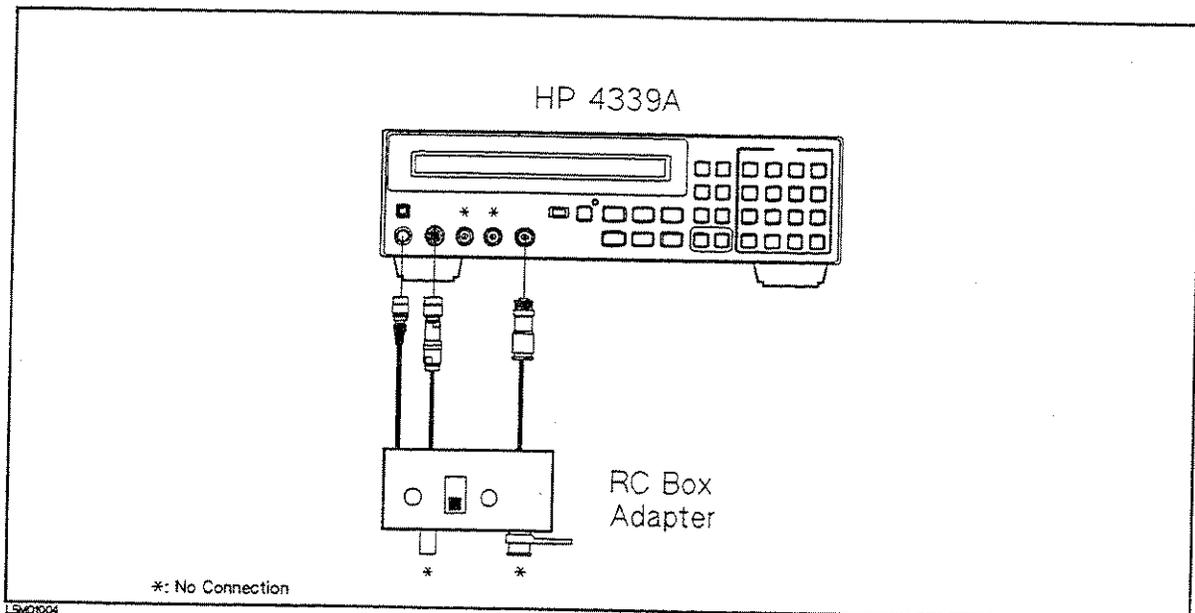

Figure 9-6. Resistance Measurement Accuracy Test Setup (Floating)
4. Set up the equipment as shown in Figure 9-6.